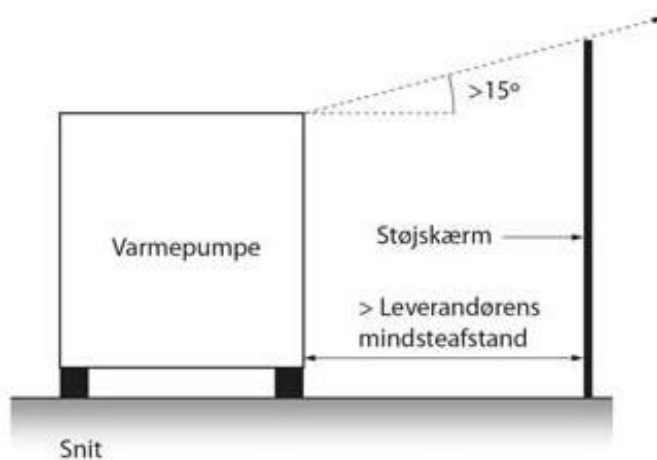

Figure 2-16: Noise barrier height requirements
- The screen must cover all the way around the heat pump in the direction towards the neighboring dwelling (see Figures 2-16 and 2-17). If the terrain rises towards the neighbor, the screen must be higher than that shown in Figure 2-16.